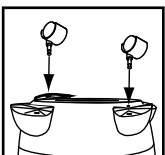

FIGURE 7
7. Insert casters into feet by placing stem of caster into holes provided. Apply pressure and twisting motion until casters snap into place **FIGURE 7.** Return tank to upright position.